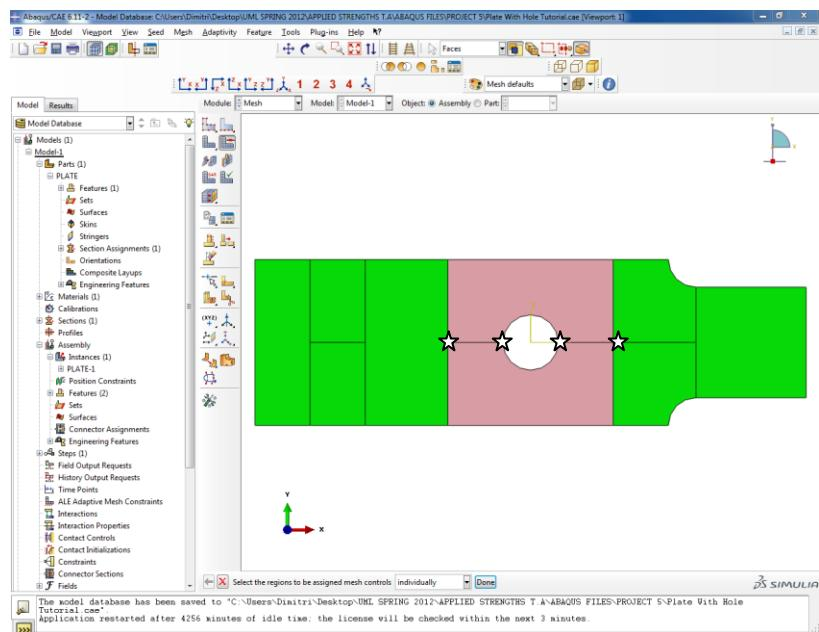

Figure 21. Mesh Regions
- All of the regions of the model should turn a green color except for the two regions that define the central hole (Figure 21).
- While holding shift of the keyboard click the four nodes that join the two regions along the x-axis (Denoted by the stars in Figure 21).